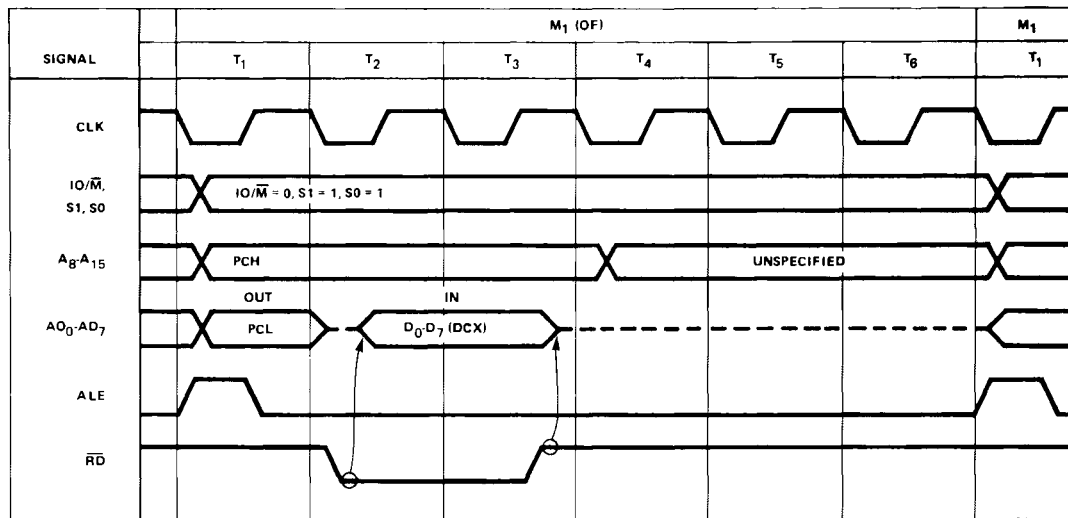
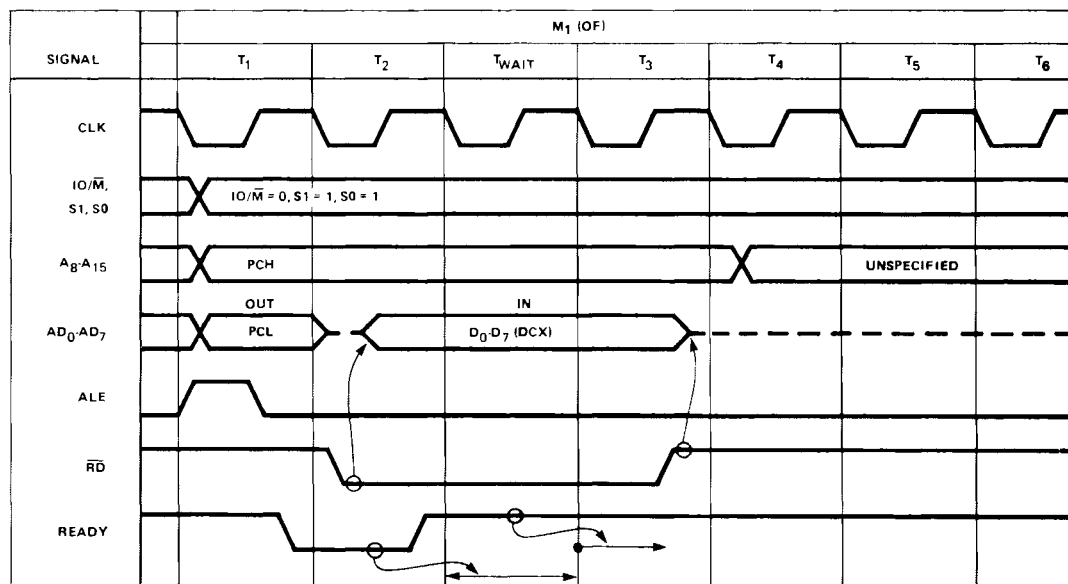
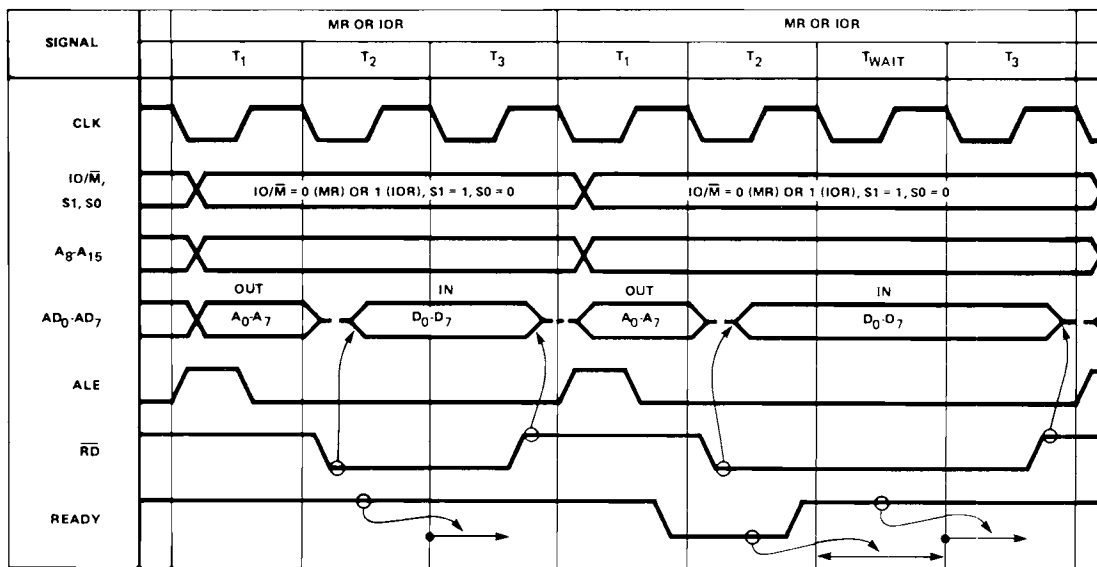

Figure 4-3. Opcode Fetch Machine Cycle
Figure 4-4. Opcode Fetch Machine Cycle With Wait State
Figure 4-5. Memory or I/O Read Machine Cycle
4-18. OPCODE FETCH TIMING. Figure 4-3 shows the timing relationship of a typical opcode fetch machine cycle. At the beginning of T1 of every machine cycle, the CPU performs the following:
- d. Places low-order bits (PCL) of program counter onto address/data lines AD0-AD7. These address bits will remain true for only one clock cycle, after which AD0-AD7 go to their high-impedance state as indicated by the dashed line in figure 4-3.
Figure 4-4 is identical to figure 4-3 with one exception, which is the use of the READY input to the CPU. As shown in figure 4-4 the CPU examines the state of the READY input during T2. If the READY input is high, the CPU will proceed to T3 as shown in figure 4-3. If the READY input is low, however, the CPU will enter the Twait state and stay there until READY goes high. When READY goes high, the CPU will exit the Twait state and enter T3. The external effect of using the READY input is to preserve the exact state of the CPU signals at the end of T3 for an integral number of clock periods before finishing the machine cycle. This 'stretching' of the system timing, in effect,
**4-19. MEMORY READ TIMING.** Figure 4-5 shows the timing of two successive memory read machine cycles, the first without a  $T_{wait}$  state and the second with one  $T_{wait}$  state. Disregarding the states of the S0 and S1 lines, the timing during  $T_1$  through  $T_3$  is identical with the opcode fetch machine cycle shown in figure 4-3. The major difference between the opcode fetch and memory read cycles is that an opcode fetch machine cycle requires four or six T-states whereas the memory read machine cycle requires only three T-states. One minor difference between the two cycles is that the memory address used for the opcode fetch cycle is always the contents of the program counter (PC), which points to the current instruction; the address used for a memory read cycle can be one of several origins. Also, the data read from memory is placed into the appropriate register instead of the instruction register. Note that  $T_{wait}$  state is not imposed during a read of on-board ROM/PROM.
**4-20. I/O READ TIMING.** Figure 4-5 also illustrates the timing of two successive I/O read machine cycles, the first without a  $T_{wait}$  state and the second with one  $T_{wait}$  state. With the exception of the IO/M status signal, the timing of a memory read cycle and an I/O read cycle is identical. For an I/O read, IO/M is driven high to identify that the current machine cycle is referencing an I/O port. One other minor exception is that the address used for an I/O read cycle is derived from the second byte of an IN instruction; this address is duplicated onto both the A8-A15 and AD0-AD7 lines. The data read from the I/O port is always placed in the accumulator specified by the IN instruction. Note that in the 2.42 MHz mode a  $T_{wait}$  is not imposed during the access of on-board I/O devices;  $T_{wait}$  states are imposed during the access of system I/O devices via the Multibus lines.